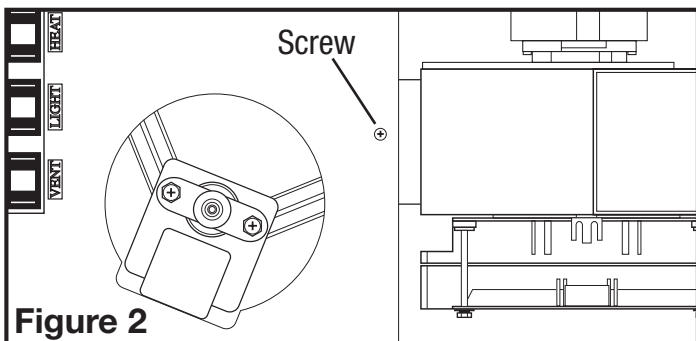

Figure 2
- Remove the fan's venturi assembly, which is secured in place with one screw through the venturi (Figure 2). Keep the venturi assembly and the grill in the carton until needed so they do not get damaged or lost.